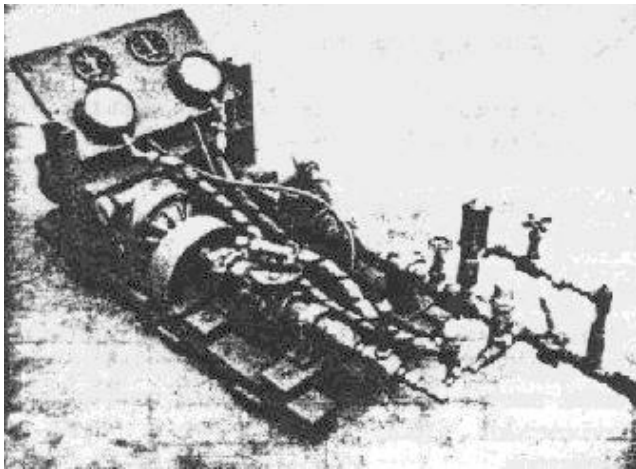

Figure 3-7. Variable-volume pump arrangement
(2) By the use of two variable-volume motors (Figure 3-7), the gel time can be changed without appreciably changing the basic chemical concentration of the final mixture, and total volume pumped can be changed without changing the gel time. It may be desirable to add a third pump, or a third pump and tank, to a metering system. Figure 3-7 Shows an early version of this type of unit.